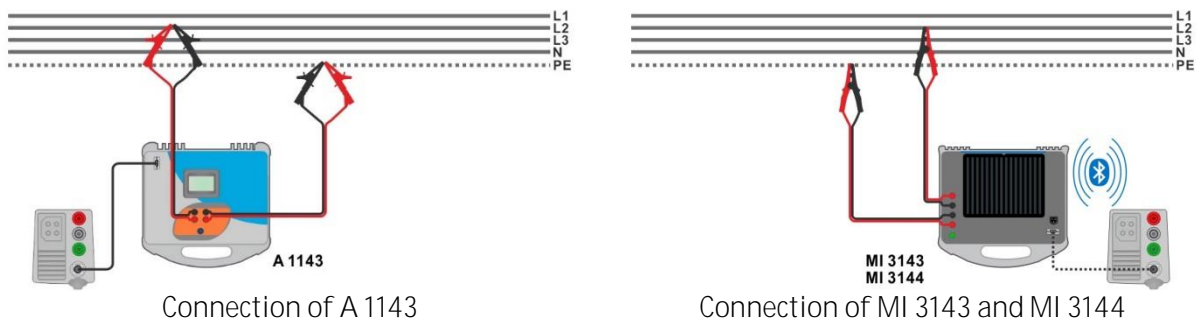

Figure 7.52: High precision loop impedance measurement
- ▶ Connect test leads to the object under test, see *Figure 7.52* and *Figure 7.53*.